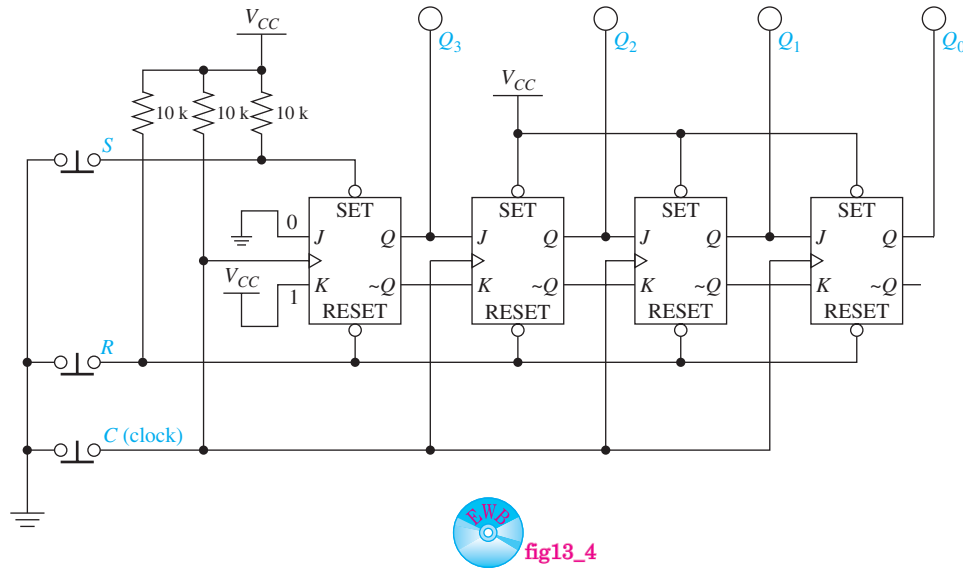

Figure 13–4 Using MultiSIM® to illustrate the operations of a 4-bit shift register.
Figure 13–3 (a) 4-bit parallel-in, serial-out shift register using 74LS76 J - K flip-flops; (b) waveforms produced by parallel loading a 7 (0 1 1 1) and shifting right by four clock pulses. (An active-LOW 7 is 1000.)
Figure 13–4 shows a MultiSIM® simulation of a 4-bit shift register. Instead of having a constant clock signal, normally open push buttons with pull-up resistors are used to inject a LOW-to-HIGH pulse each time the button is pressed. This gives the user the control to test the Set, Reset, and shift operation at human speeds while watching the individual display LEDs. The Q_3 flip-flop has $J = 0$, $K = 1$ so it is Reset at each clock edge. Also at each clock edge, Q_2 receives the level of Q_3 , Q_1 receives Q_2 and Q_0 receives Q_1 .
- (a) Load the file *fig13_4* from the textbook companion website. Press the Reset key (*R*) to insure that all *Q*s start at 0. Set the first flip-flop by pressing *S*. Now, each time that you inject a clock pulse by pressing *C*, you will see the ON LED shift to the right. Repeat this setting and shifting process several times until you have a good feel for its operation.